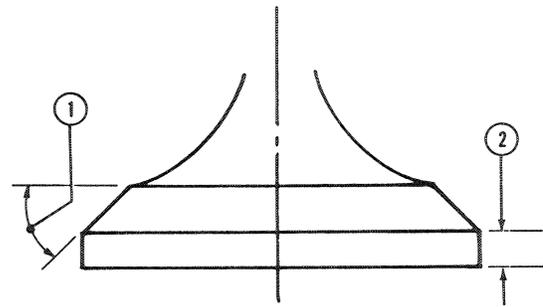

FIGURE 1-34
3. If inspection indicates that the valve may be reused, the valve face and seat should be ground as shown, Figures 1-34 and 1-35.
After grinding, recheck the valve margin, 2, Figure 1-34, to be sure that the correct valve head thickness is maintained.